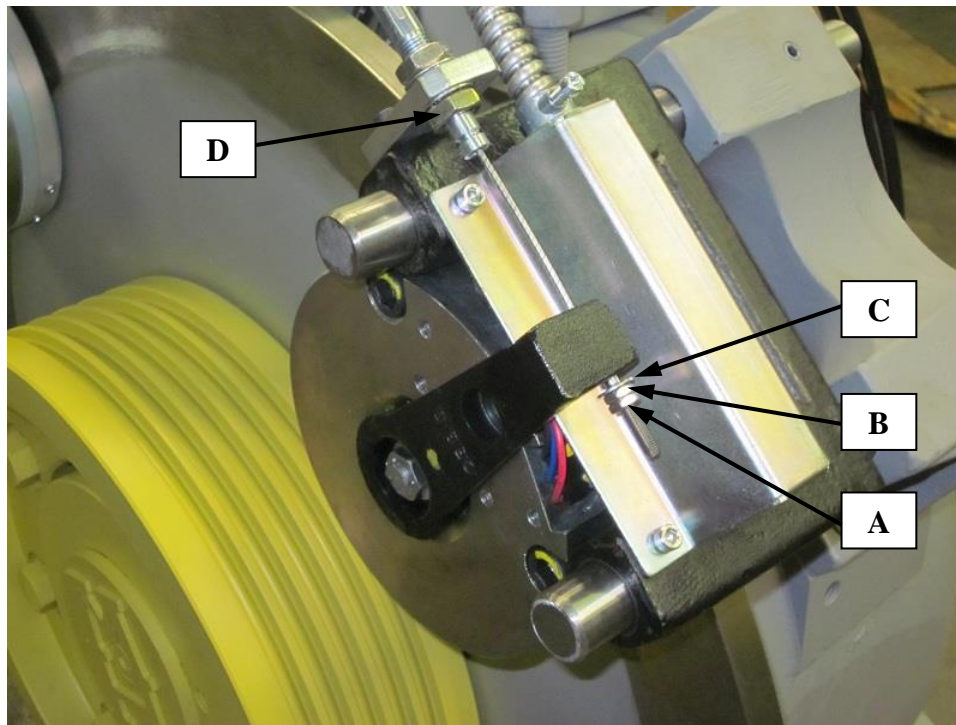

Figure 5
- For machines equipped with the Hollister-Whitney manual brake release cable, begin by removing jam nut "A", nut "B" and washer "C." Then, loosen nut "D." Refer to Figure 5.